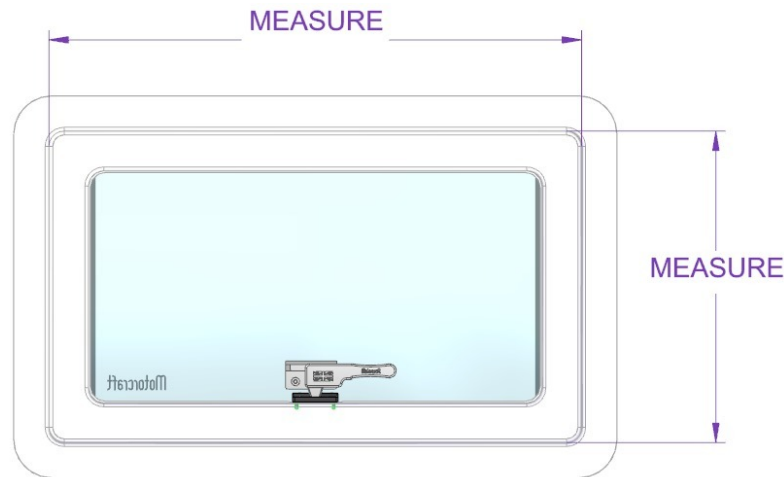
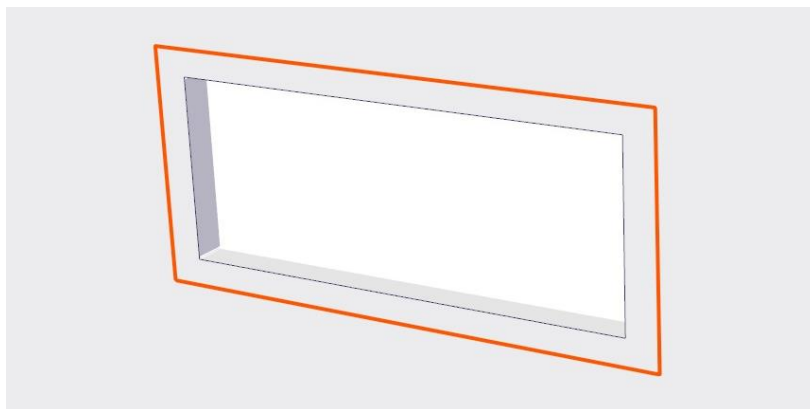

Figure 1: Inside Window Measurement
Figure 5: Marked Up Window
- 8.2. Using a tape measure, measure the GRP frame to determine the size of the biggest cut you will need to make from the outside of your panel. The measurements required is shown in Figure 1.
11.1. Using a vibrant Marker Pen and a straight edge, mark on the panel the measurements taken from point 8.2. (Figure 1) positioned central vertically and horizontally with the first cut-out. As shown in Figure 5.